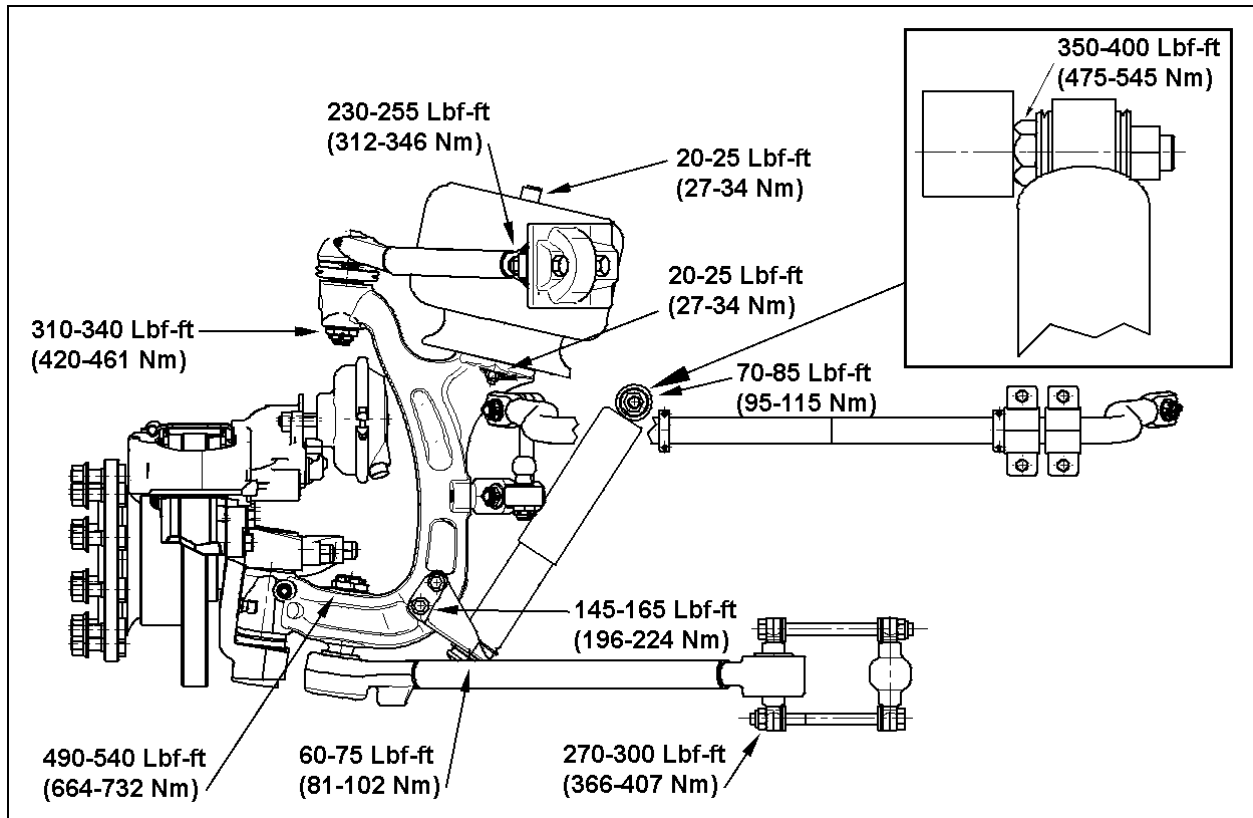

FIGURE 34: AIR SPRING AND SHOCK ABSORBER
- Torque replaced nuts as per figure 34.
5. Install the shock absorber as shown in figure 34 with the mounting stud protruding through the hole in the mounting bracket and the shock absorber eyes over the mounting pins. Install the outer washer.